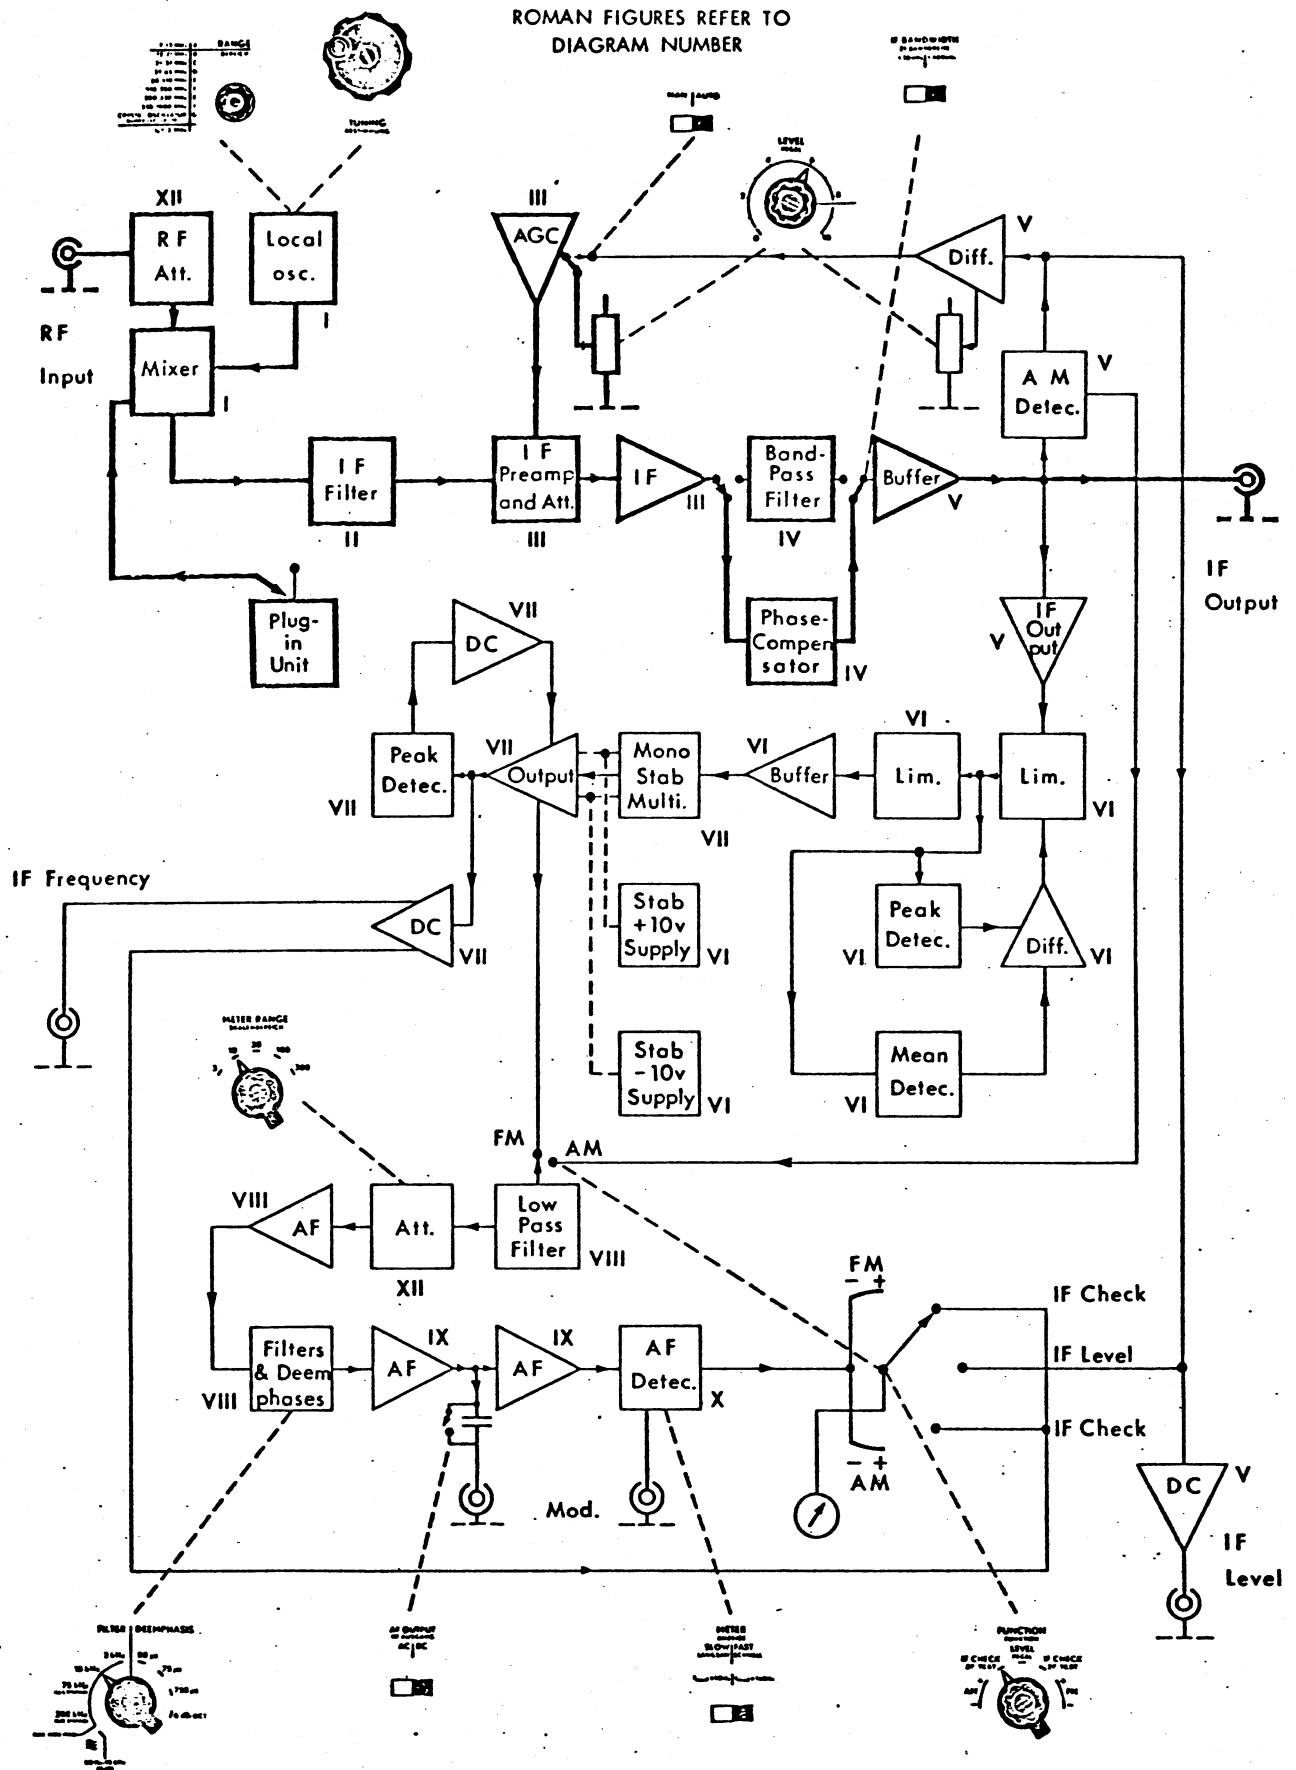

Fig.H1. Intermediate Frequency Check.
- 16) Using a trimming tool, adjust R29 (shown in Fig. H1) until the AC VTVM indicates 0.671 V (rms value).